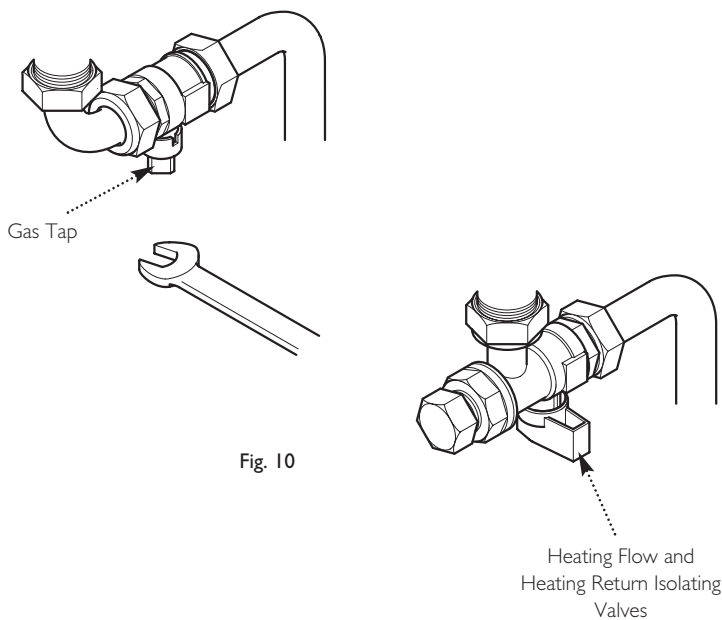

Fig. 10
Turn off the gas supply at the meter and call your gas supplier immediately. It is possible to isolate the boiler at the isolating valve (Fig. 10).
1. Using a suitable open ended spanner, turn the square nut on the gas tap through 90° (1/4 turn) to isolate the gas supply at the boiler (Fig. 10).
2. The water isolating valves are positioned under the boiler and can be closed by turning their taps to the right towards the wall (Fig. 10).